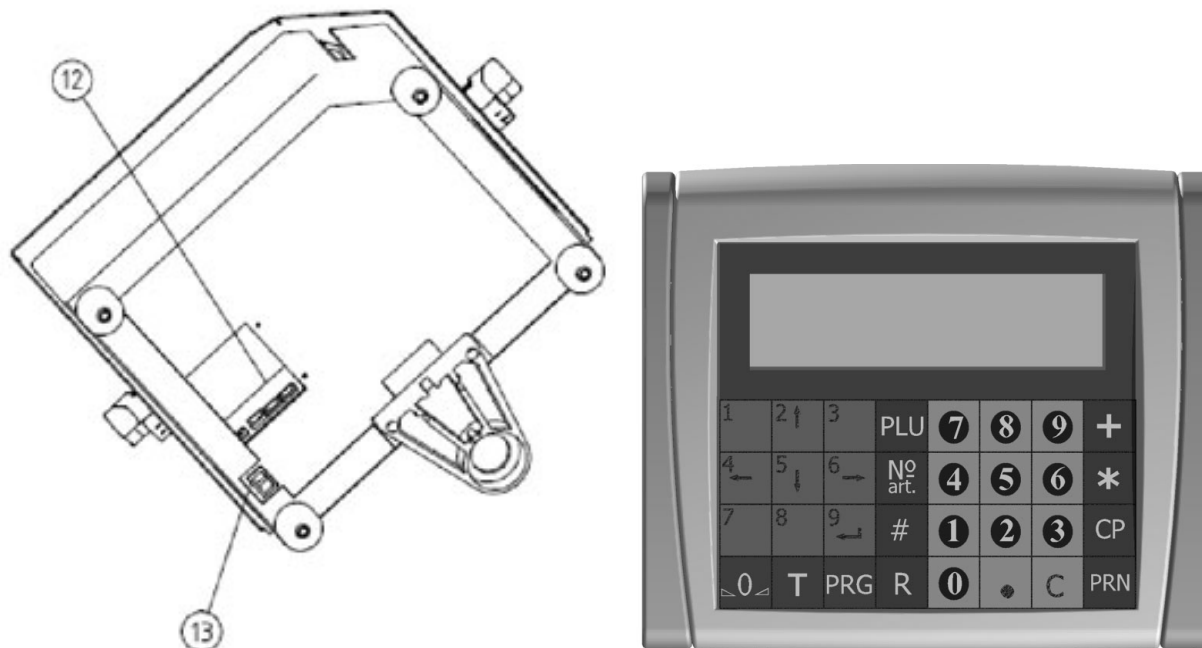

Fig. 8.1
4. Clients Display Window – Fig.8.1